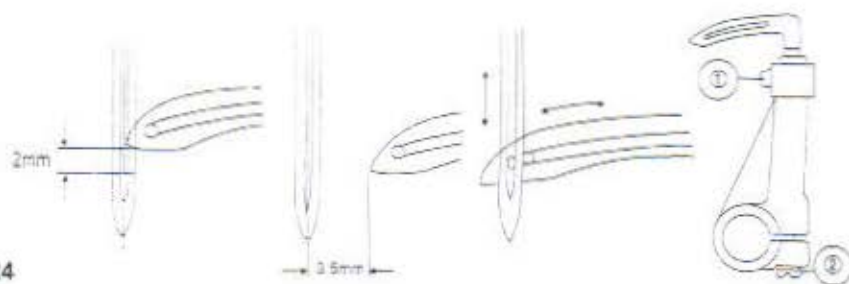

Fig.24
19. Thread-guiding amount of the looper(refer to Fig.24)
- 1) The standard value of the vertical distance of the point of the looper away from the upper end of the eye of the needle is 2mm, then the graduation mark on the lower part of the needle bar shall be in line with the lower end of the needle bar bushing, lower.(refer to Fig.24)
- 3) The relation between the eye of the needle and the eye of the looper is indicated in Fig.24.